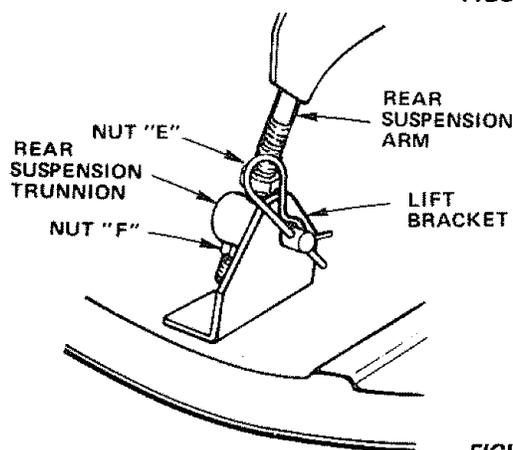

FIGURE 35
- To raise rear mower, loosen nut "E" on both rear suspension arms. Screw both nuts "F" up EQUAL NUMBER OF TURNS (Fig. 35).